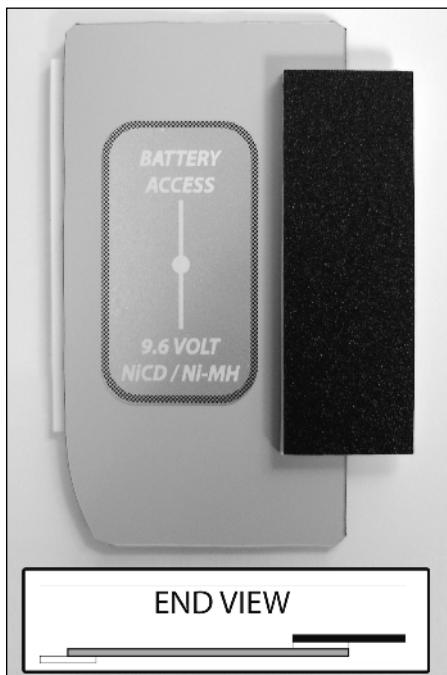

FIGURE 7-13: The assembled battery door.
2. Now superglue one of the 1/2" × 3" pieces under the battery door with 1/8" exposed. Glue the other 1/2" × 3" piece under one side of the 1" × 3" piece, then attach it to the front of the battery door. The result should look as shown in Figure 7-13.